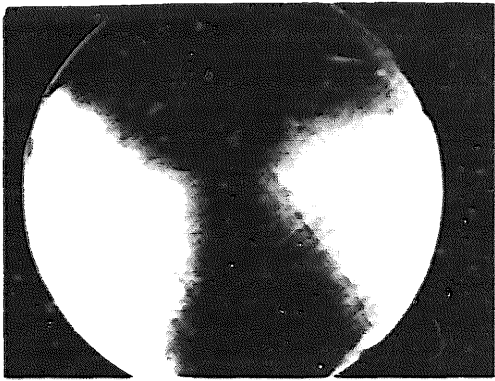

Figure 1-10. Fade positive which occurs after Presentation Sector is left in VIEW for 2 to 4 minutes
- h. **FADE POSITIVE** - Appears as random green areas on a dark background in **MAX**, **PERSISTENCE**, see Figure 1-10.